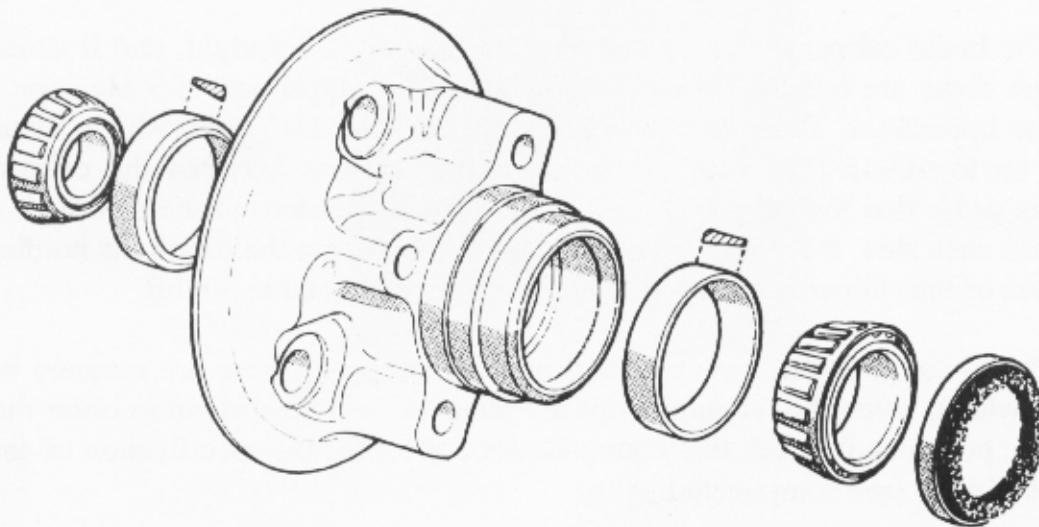

Figure 4.2 Front Hub Assembly
4.1 Fit both the inner and outer taper roller bearing housings into the hub casting. Referring to figure 4.2., note that the larger bearing fits into the inner housing and both need to be pushed fully home into the hub. This can be done either using a vice or by tapping into place with a hammer and a suitable drift, taking very great care not to damage either the hub or the bearing face.